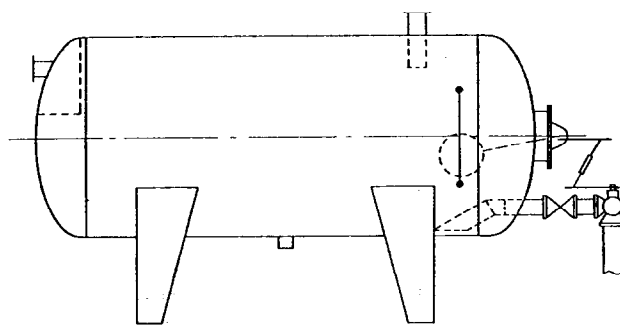

FIGURE 3
A. Fluid packed (see Figure 3)